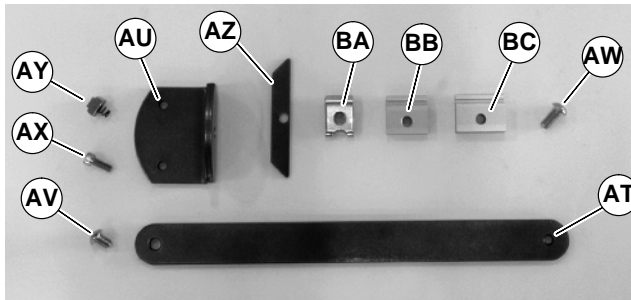

Figure 29
1. Gather components (Figure 29).